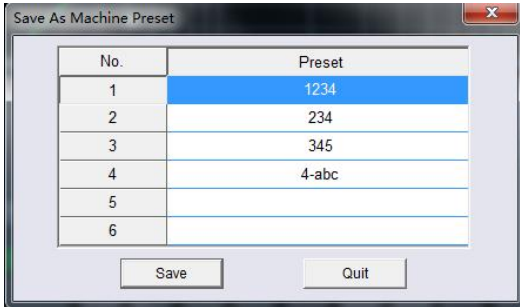

Figure 3.4.5
- Step2:** Click "Load machine preset " item will pop up after loading machine preset scene window dialog box (Figure 3.4.5).
Step3: as dialog box of figure 3.4.5 , select the machine where the user wants to load a preset number (as selected on the 3rd), and then point below the "Load" button on the pop-up shown 3.4.6 loading data transfer progress shown in the wait window.